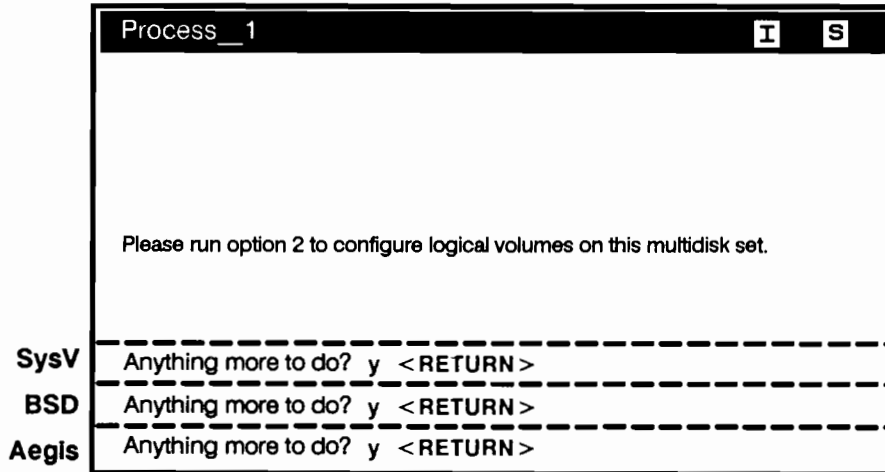

Figure 3-42. *invol* Prompt to Return to *invol* Main Menu
9. The **invol** utility asks you to run option 2. When it asks if you have any more requests, as shown in Figure 3-42, type **y** to return to the **invol** main menu.